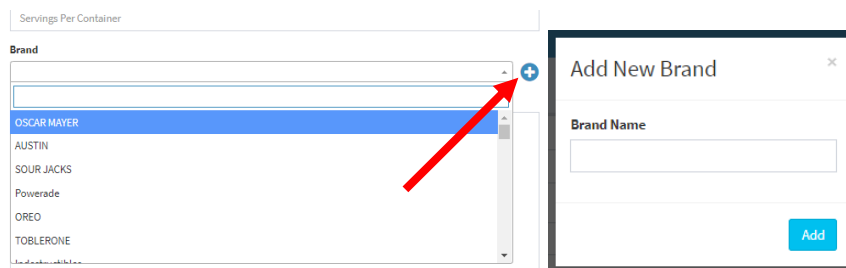

Figure 30
- **Brand:** To aid in product search you may create a product Brand name by clicking the blue plus button. For subsequent items added for that brand they will be available in a drop down list (*figure 30*).